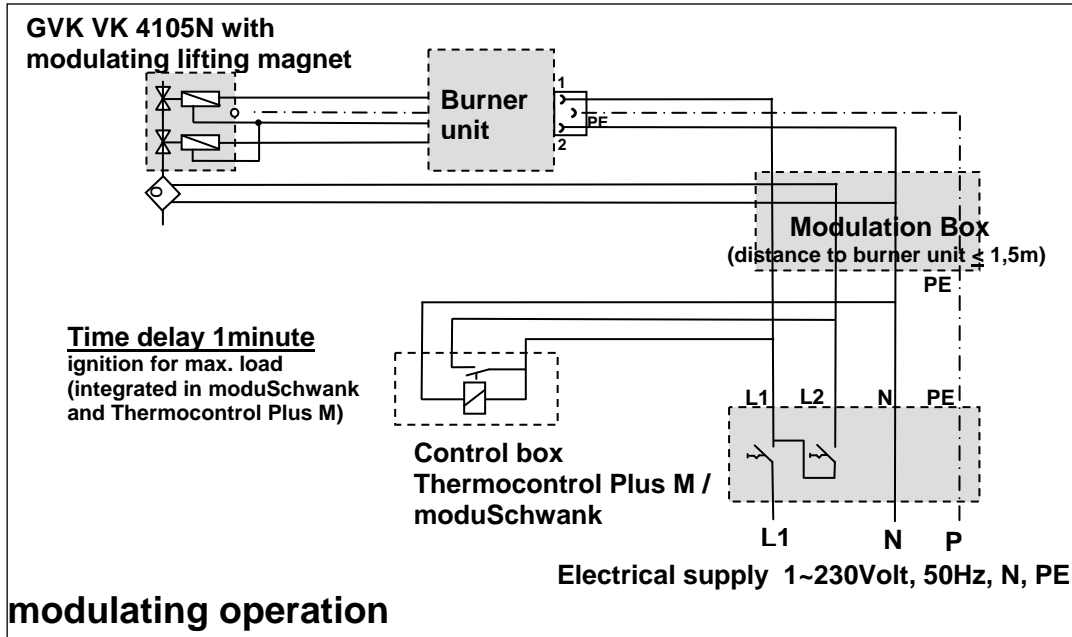

Fig. 26: Connecting diagram modulating operation infraSchwank D / calorSchwank D
- ⇒ Route the connection cable (power supply burner unit) from the modulation box to the three-pin plug and connect the cables (see Fig. 26, page 28).
- ⇒ Connect the connection cable for the lifting magnet from the modulation box direct to the lifting magnet modulating valve (see Fig.26, page 28).